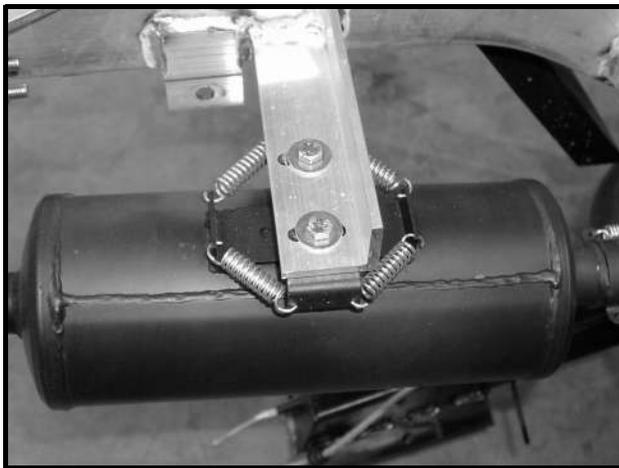

Figure 13b-11 Muffler and Bracket
The fuel system contains two fuel filters: A primary fuel filter (7), and a secondary fuel filter with an integrated water separator (8) (Figure 13b-14, Page 13b-13). Fuel filters, fuel lines, and the fuel tank vent should be inspected periodically for leaks and replaced when necessary. Fuel filter changes should not exceed the recommended interval. See Periodic Service Schedule on page 10-1.